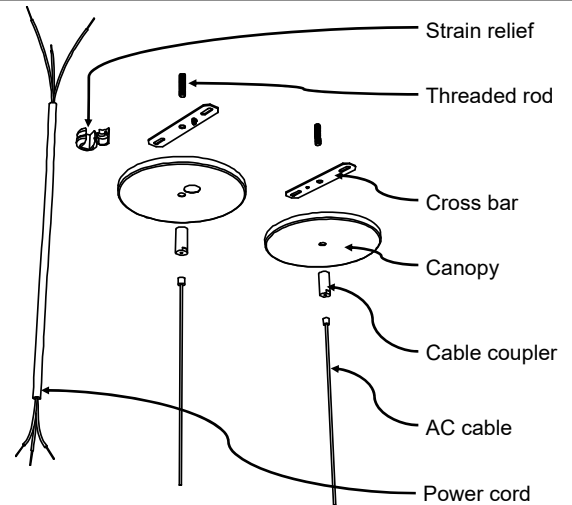

Fig 1
2. Install canopy sets (cross bar, threaded rod, canopy, cable coupler, AC cable, power cord) and connect power cord (Fig.1). For spacing refer to table provided.